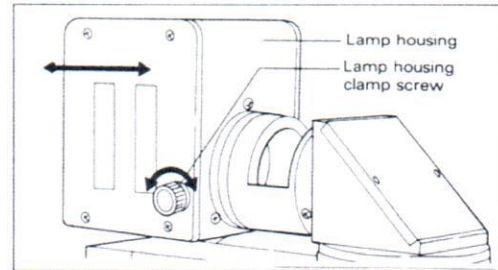

Fig. 9
- ⑤ Remove the diffuser from the filter holder. Releasing the lamp housing clamp screw, move the housing back and forth to have the lamp filament image focused on the phase-contrast ring. (Fig. 9)